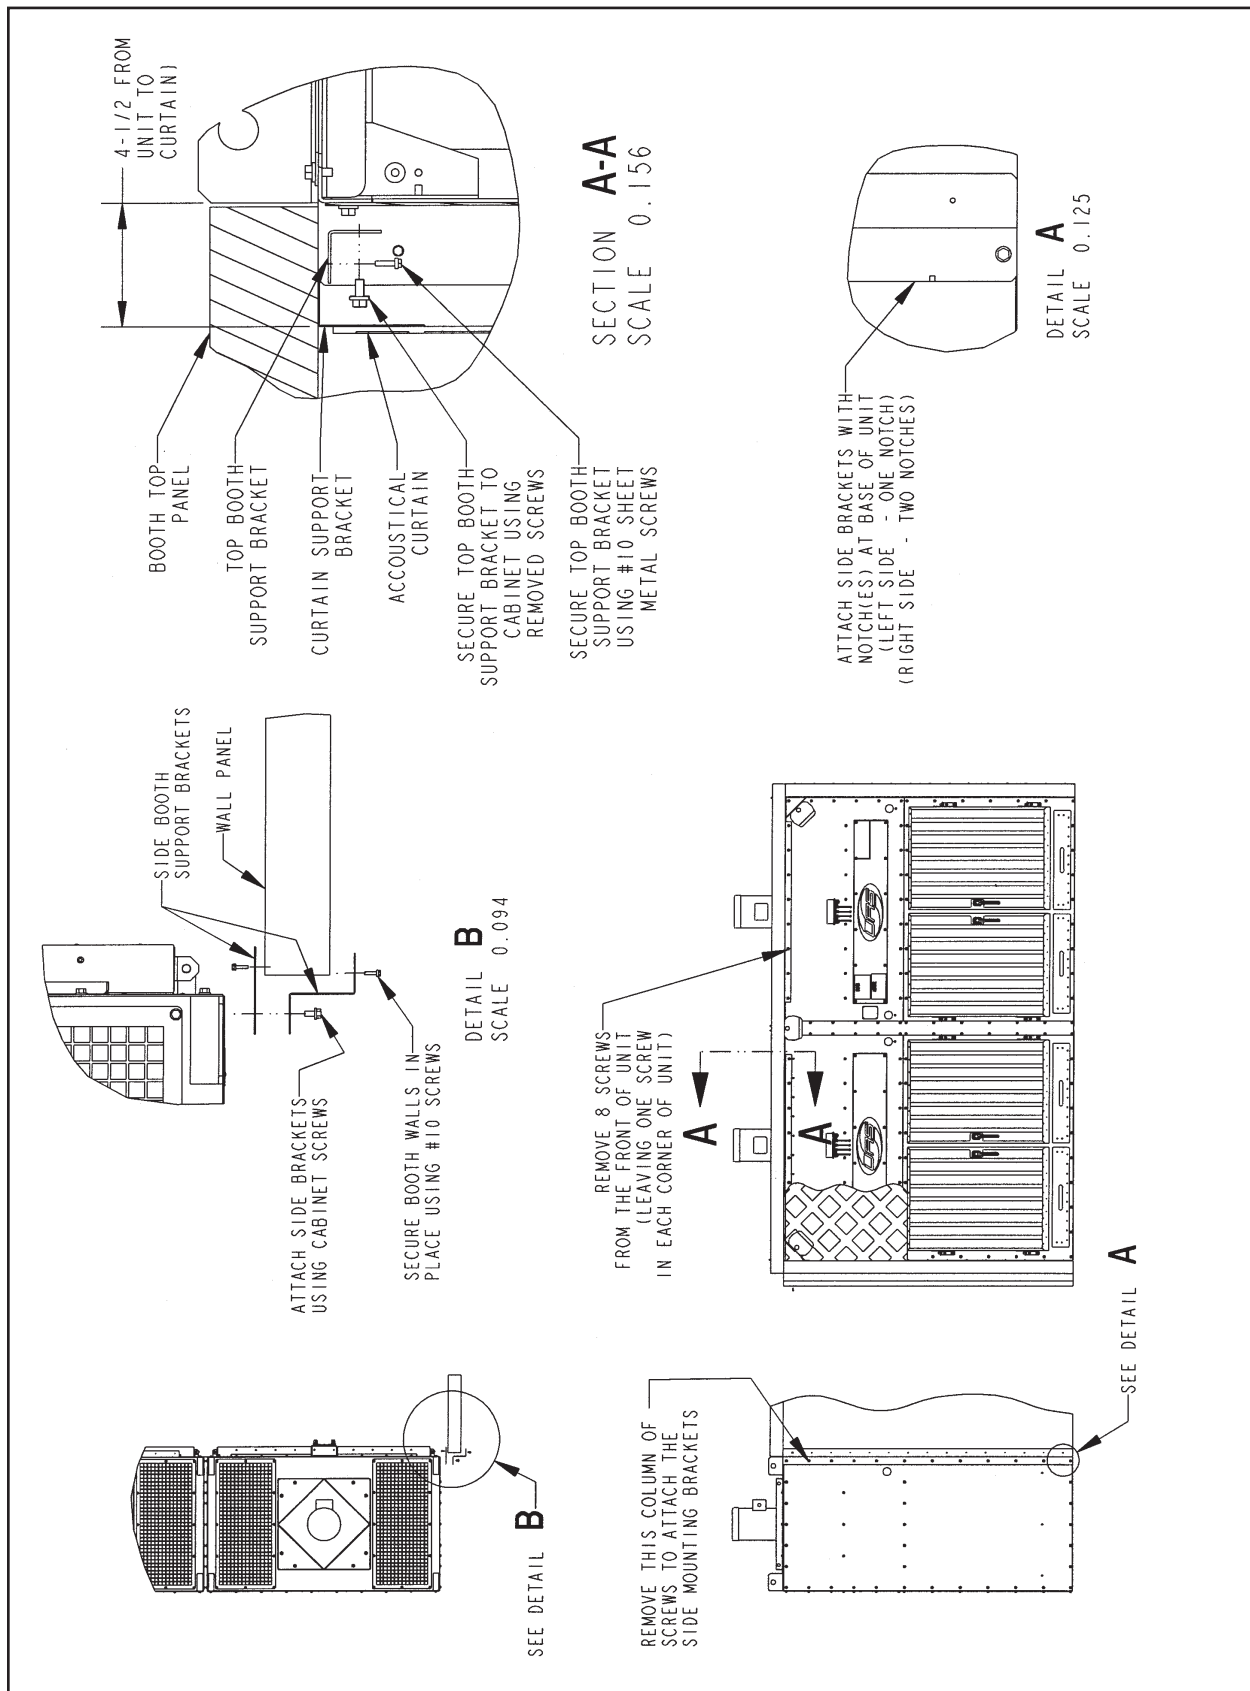

Figure 5
Refer to the booth installation drawing in Figure 5 for set-up and assembly.
1. On the "end" modules, remove the column of fasteners towards the inlet side of the module. Place the spacer strip between the wall mounting bracket and the cabinet and then replace the fasteners. The right wall bracket has two notches near the bottom of the bracket, where the left wall bracket only has one. See Figure 5.